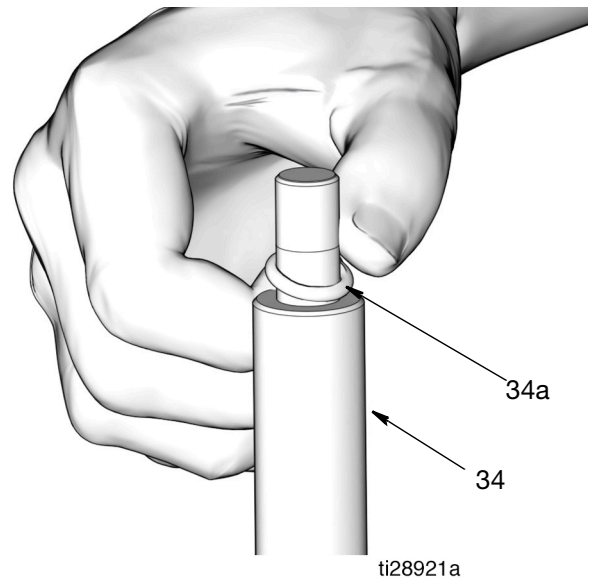

FIG. 25
25. Dispose of the piston seal (4), the o-ring (34a) and the nut (37) according to all regulations for proper disposal.
26. Use a pick to remove the o-ring (34a) from the piston rod (34) (FIG. 25).